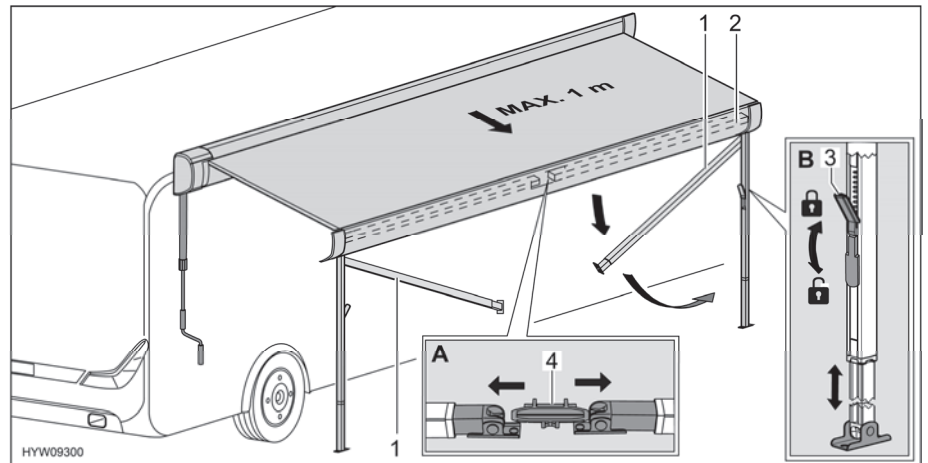

Fig. 21 Preparing support legs
- Release support legs (Fig. 21,1) from holder (Fig. 21,4) in the front bar (Fig. 21,2). In order to do this, apply slight outward pressure on the support legs (Fig. 21,A).
- Release the locks (Fig. 21,3) of the support legs. In order to do this, fold the catch lever downwards.
- Pull lower part of the support legs out to the desired length (Fig. 21,B).
- Close the locks (Fig. 21,3) of the support legs. In order to do this, fold the catch lever upwards.